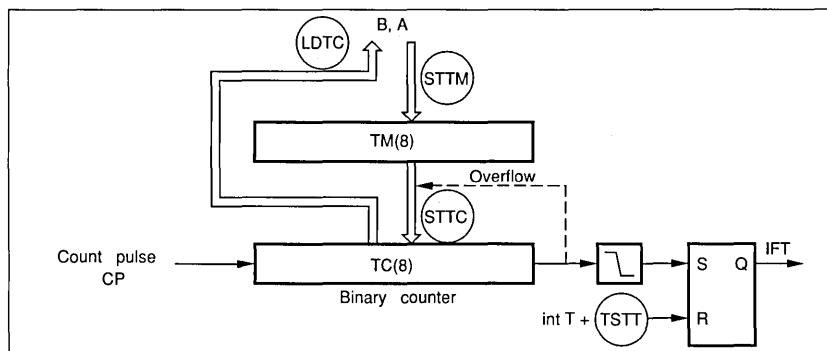

Fig. 5 Timer/Counter
The timer/counter consists of an 8-bit count register (TC) and an 8-bit modulo register (TM). The count register is an 8-bit incremental binary counter. It is incremented by one at the falling edge of its count pulse (CP) input. If the count register overflows, the timer interrupt request flag IFT is set, and the contents of the modulo register (TM) are loaded into the count register (See Fig. 5).